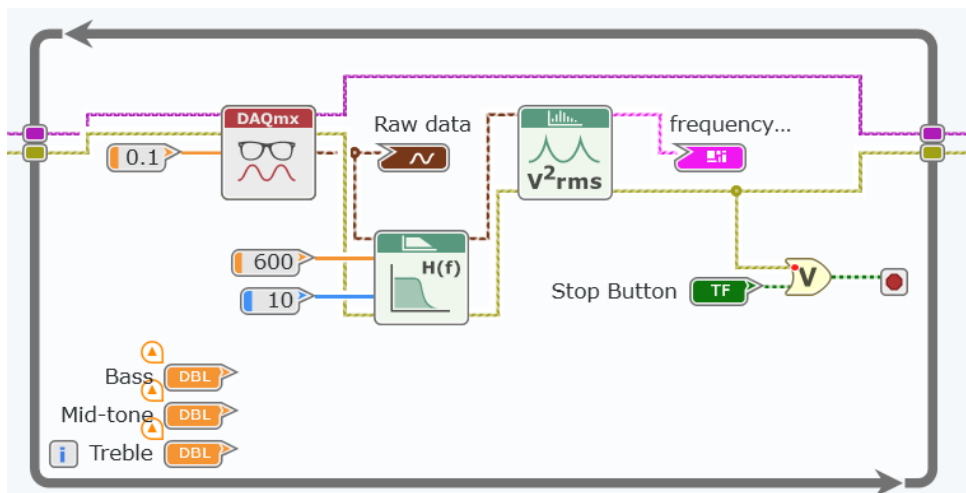

Figure 6-17 Applying a filter to your acquired data can focus the resulting data set on a particular spectrum of interest.
- Wire accordingly for error and signal wires. Expand the while loop if you need more space. The resulting diagram should look like Figure 6-17.